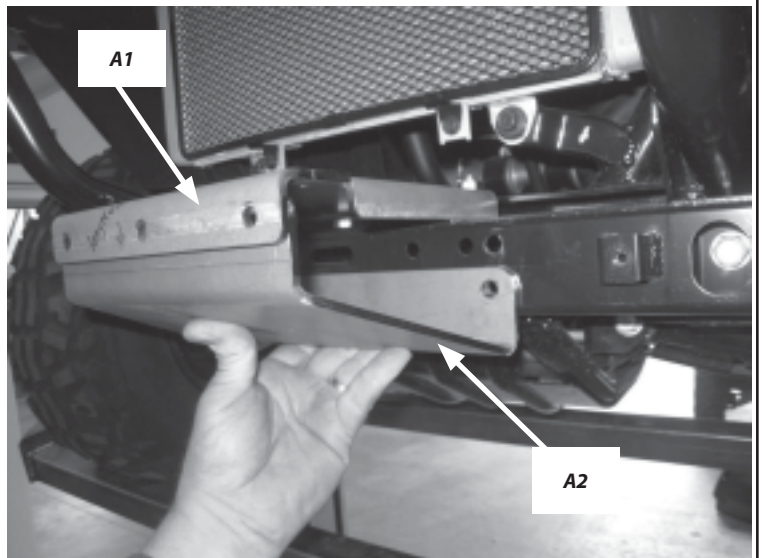

Figure 3
3. Make sure the top plate is straight to the vehicle, using the lower support bracket (A2) to line it up as shown in figure 3.